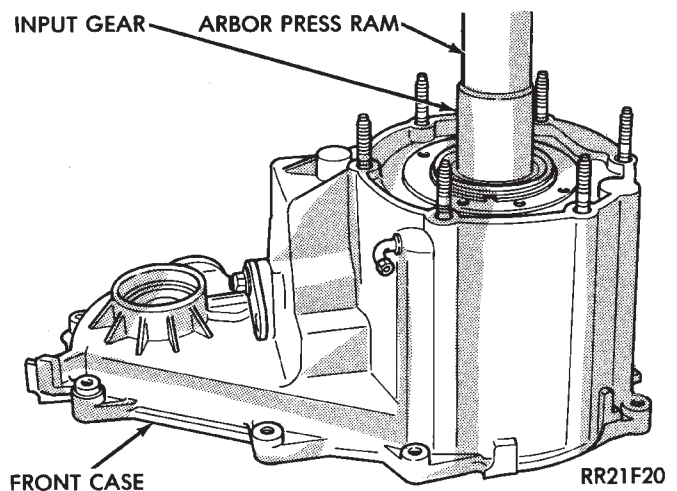

Fig. 25 Removing Input And Low Range Gear Assembly
(35) Press input and low range gear assembly out of input gear bearing with shop press (Fig. 25).